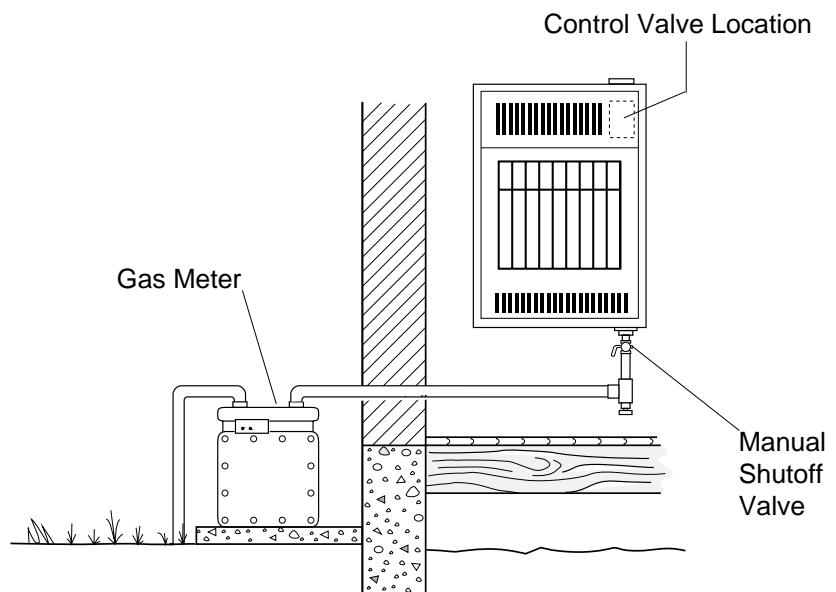

Figure 12 - Checking Gas Joints
3. Check all joints from gas meter to manual shutoff valve (see Figure 12). Apply mixture of liquid soap and water to gas joints. Bubbles forming show a leak.
4. Check all joints from manual shutoff valve to control valve (see Figure 12). Apply mixture of liquid soap and water to gas joints. Bubbles forming show a leak.